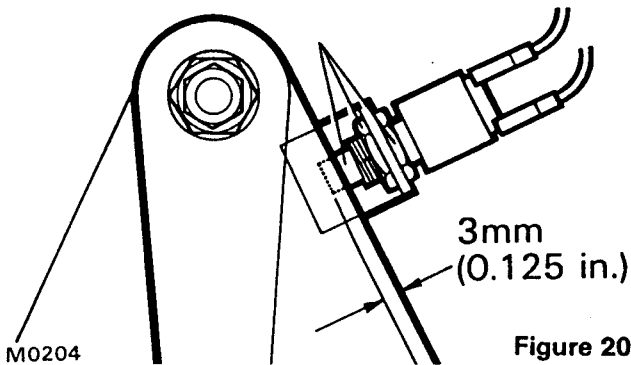

Figure 20
- (a) Position the switch so that the operating plunger abuts the brake pedal lever, see figure 20